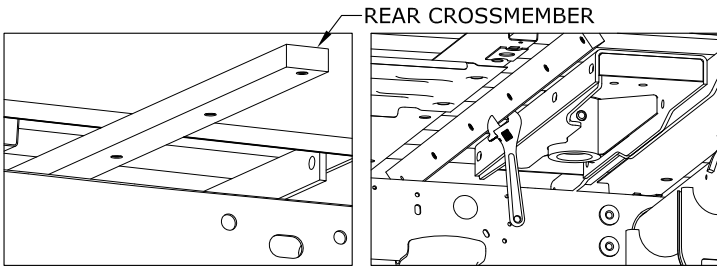

FIGURE B7: Rear Cross Member FIGURE B8: Rear Cross Member
- 3. Place the rear cross member (1" X 2" bar).** Slide the cross member between the bed and the frame just rearward of the center section until it spans both frame rails, see figure B7. The holes in the crossmember are closer to one edge than the other. Rotate the cross member $\frac{1}{4}$ turn so that the holes are closest to the bottom of the cross member. The narrow space between the bed and the frame will make it difficult to rotate the cross member. Rotation of the cross member can be made easier by using an adjustable wrench for leverage, see figure B8.